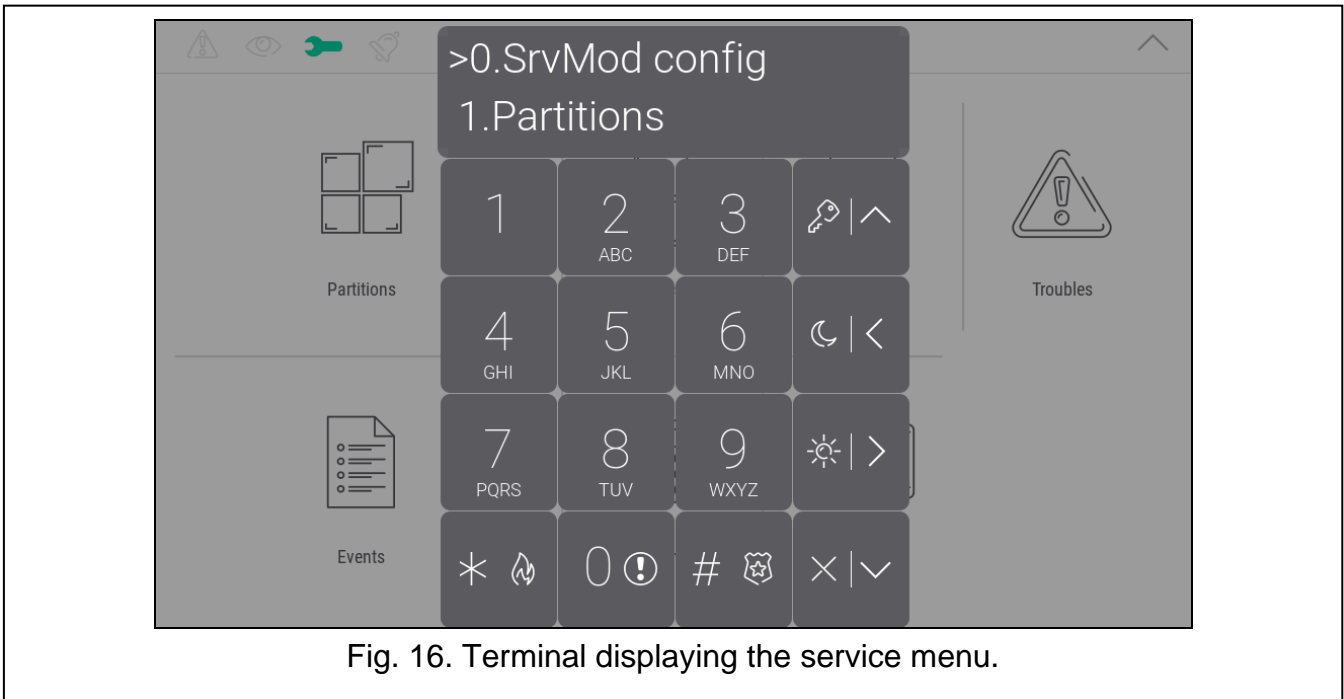

Fig. 16. Terminal displaying the service menu.
6. Tap   . The service menu will be displayed (Fig. 16).